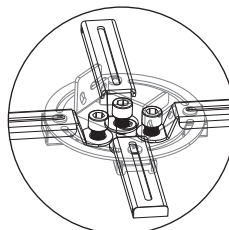

figure 15
3. Connect the installation arms to the projector conversely if the distance of installation holes is less than 120mm. Connect the installation arms (4-2) to the installation base (4-5) via sliding installation button (4-4) as figure 15